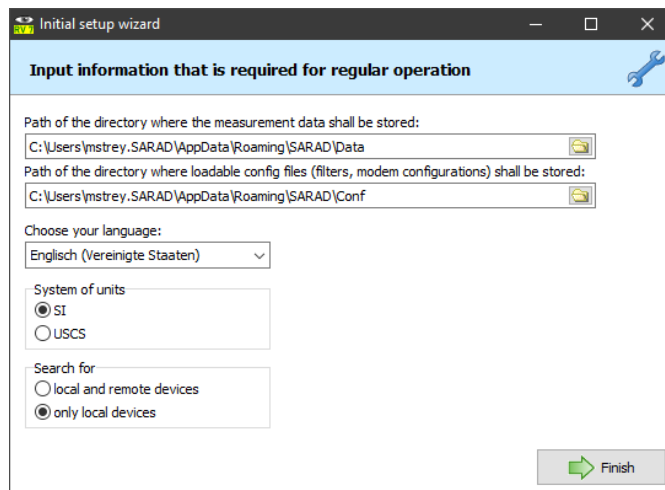

Figure 2.4.: Setting of paths, language and unit system
In the next window (Figure 2.4) you can, based on the selection made previously, specify the directory paths more precisely, the language of the user interface and the unit system to be used.
**Measurement data file** Measurement data downloaded from the instrument can be saved as a file on the PC. The raw data (counts) of one or more measurement campaigns are saved in a binary file as they come from the instrument. This binary file in the proprietary RVX format from SARAD is saved in a central location specified in the setup wizard (Figure 2.4) with systematic file names. Measurement files can be provided with a comment when they are saved.